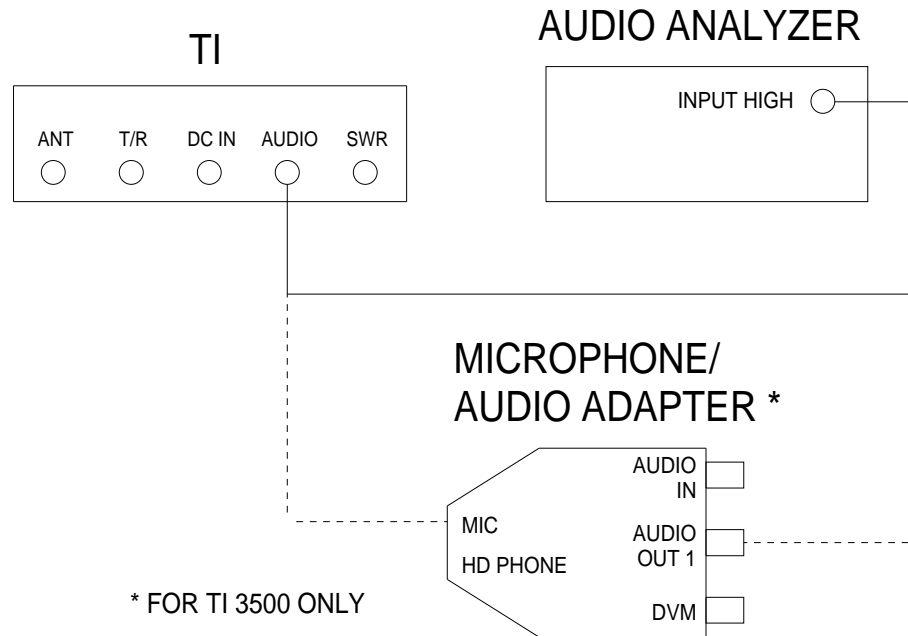

Figure 7.
4.4.2.1 Connect equipment as shown in Figure 7.